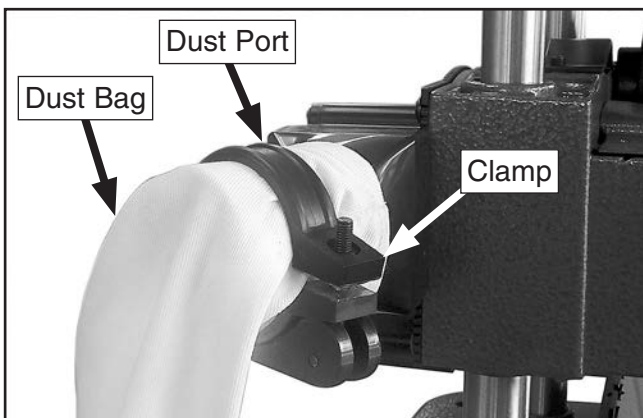

Figure 11. Dust bag installed on port and secured by clamp.
- Slide dust hose clamp over dust bag, insert bag and clamp over dust port (see **Figure 11**), and secure with handle.
- If installed, remove dust bag and clamp from dust port (see **Figure 11**).